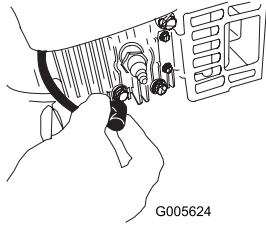

Figure 20
2. Disconnect the spark plug wire from the spark plug and hook it onto the retaining post (Figure 20) before performing any maintenance procedure.